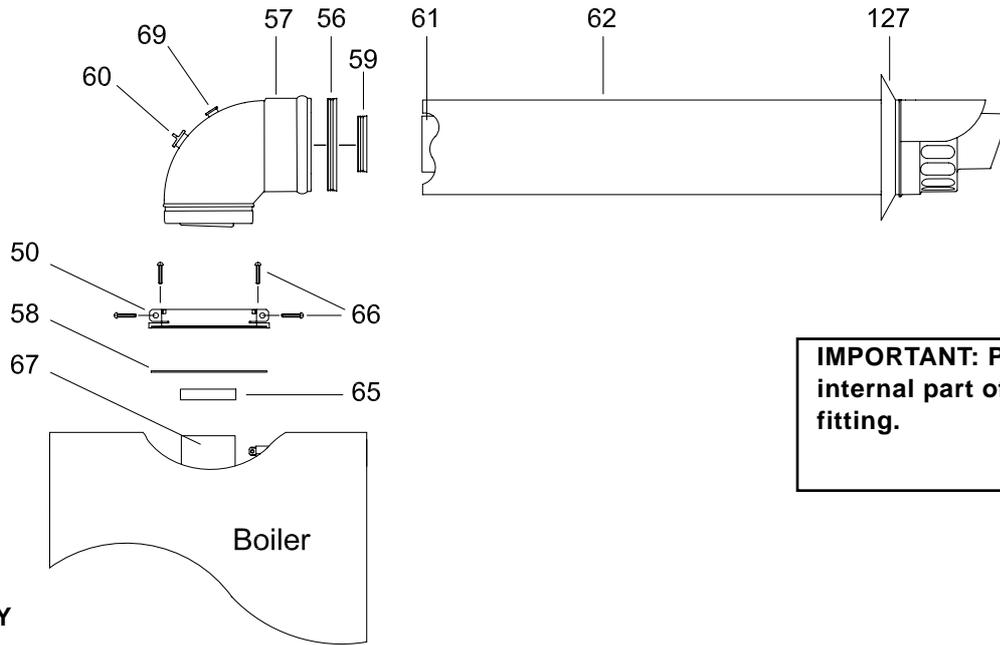

Fig.17
Important: Make sure that the dia 60 mm on the elbow header is inserted fully into the flue manifold, and the flue manifold rubber seal is correctly fitted. (Fig 17 item 65)
Important: Make sure that the dia 60 mm on the elbow header is inserted fully into the flue manifold, and the flue manifold rubber seal is correctly fitted. (Fig 17 item 65).
If an extension must be shortened, this must be done from the straight end, and not from the widened or tapered end. To measure the pipeline properly all components must be assembled and total length measured before cutting. The straight end of the extension connects to the boiler. The flue output and air intake pipes fits into the boiler header until it stops (fig.17 - 18).